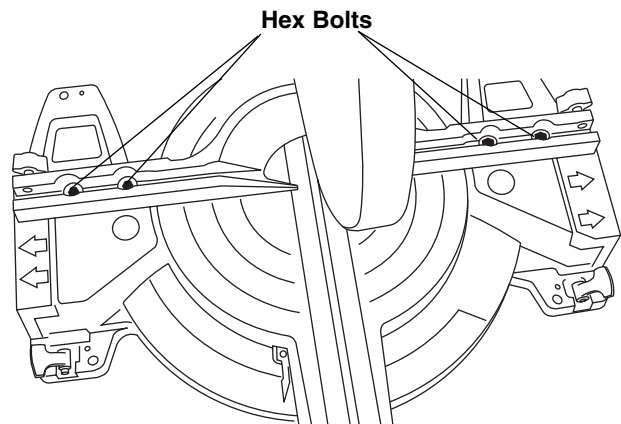

Figure 10. Fence Adjustment
- c. Use multi purpose wrench (supplied) and loosen four (4) hex bolts behind fence (Figure 10).